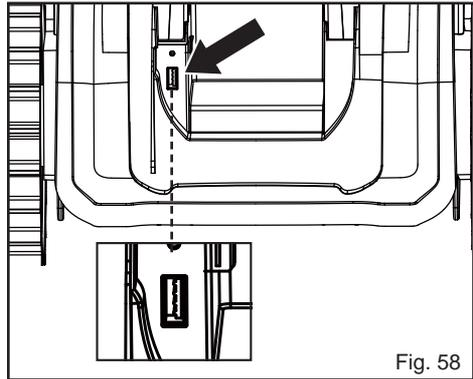

Fig. 58
- Lift the battery compartment cover. Open the USB port rubber cap to reveal the USB port (Fig. 58).